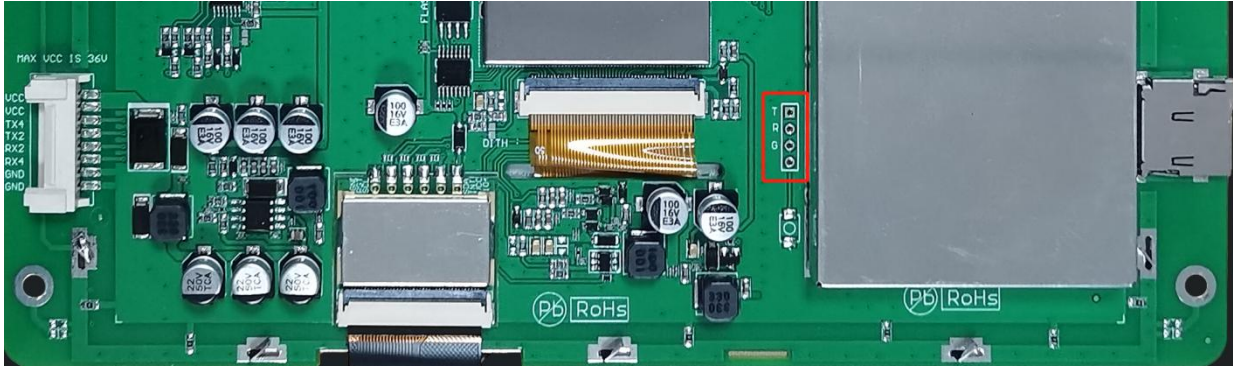

Figure 1
(1) As shown in the red box in Figure 1, use a serial port adapter to connect the Tx, Rx, and GND serial ports near the functional module, so that the screen can communicate with the computer.